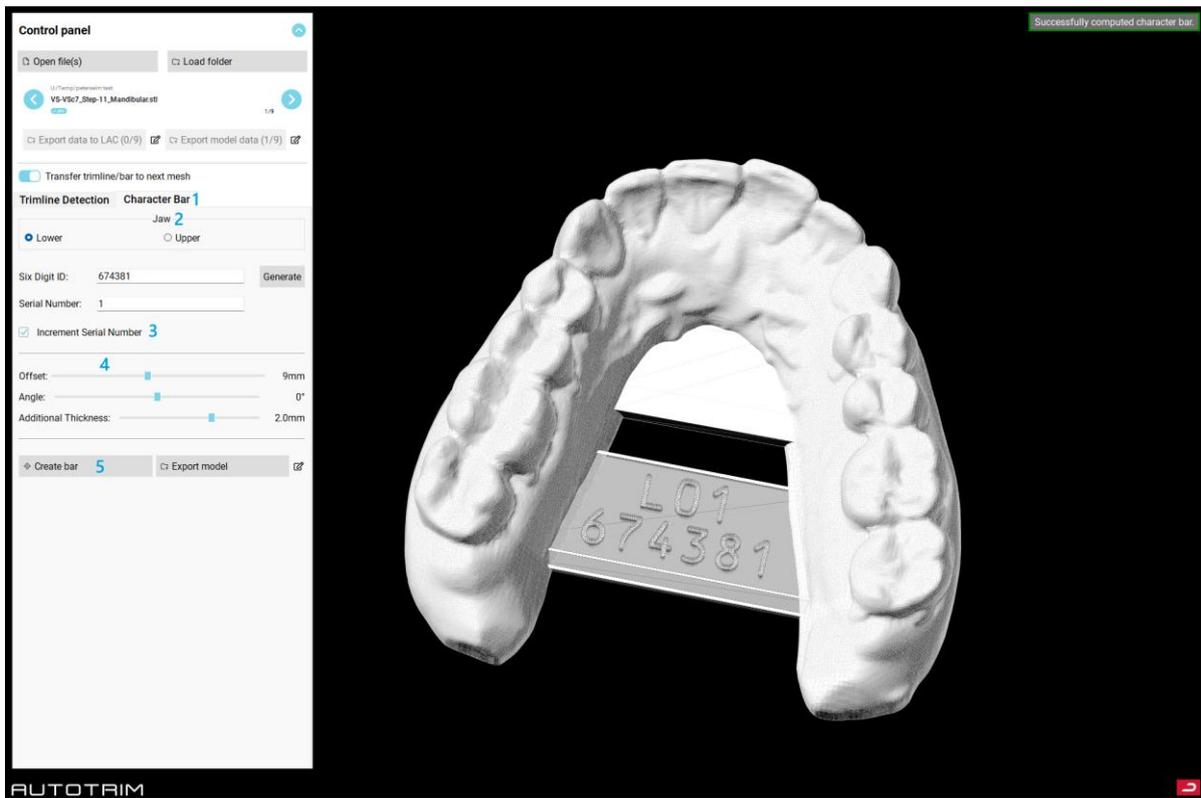

Figure 10: Character bar
By clicking *Character Bar* (1) (Figure 10) you get the option to add a character bar to the model. At first you have to select lower or upper jaw (2). Then you can select or randomly generate a six digit ID as well as a serial number (the sub-setup number) to the bar. When you select *Increment Serial Number* (3) the serial number will automatically increase when going to the next model. The offset, the angle and the additional thickness of the character bar can be adjusted (4). If no ID or Serial number is needed for your bar it can be created by clicking *Create bar* (5).